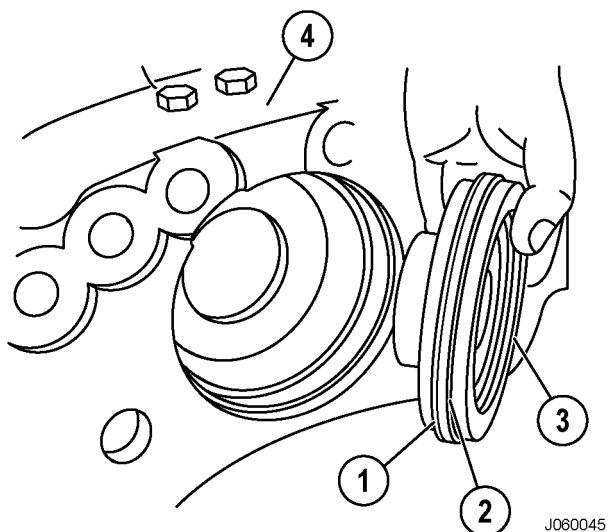

FIGURE 50-42. PARKING PISTON
- 15. Use a suitable tool to push parking piston (3, Figure 50-42) out of caliper housing (4).
- 16. Remove 127 mm (5 in.) diameter O-ring (1) and backup ring (2) from the parking piston. Discard the O-ring and backup ring.